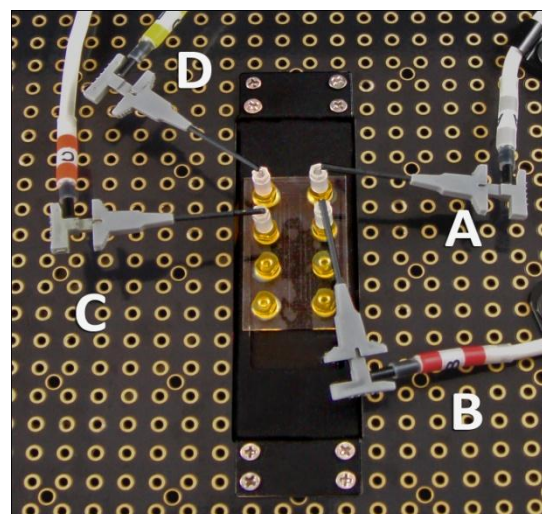

Figure 4. Correctly matched HVC cables with reservoirs and corresponding channel labels for the HVS448 Sequence file.
- Place the electrodes in the CapTite™ reservoirs, making sure that cable **A** goes to sample, **B** to buffer waste, **C** to sample waste, and **D** to buffer (Figure 4).